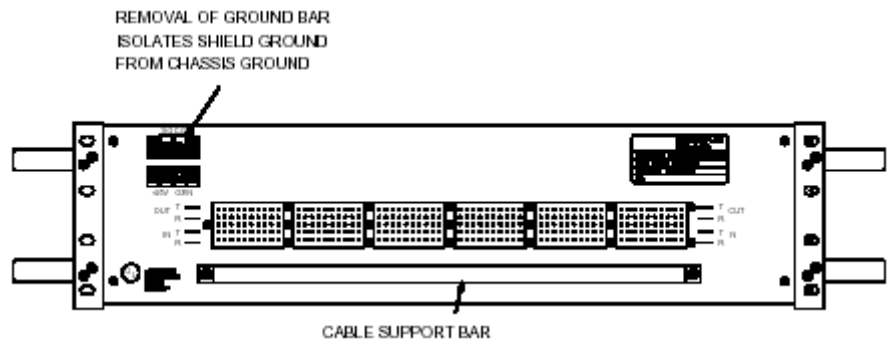

Figure 3. Rear View of Panel
1. Terminate rear equipment wiring at the rear of the panel to T IN, T OUT, R IN, and R OUT terminals with appropriate wire-wrapping tool (see Figure 3). Use an insulated bit.